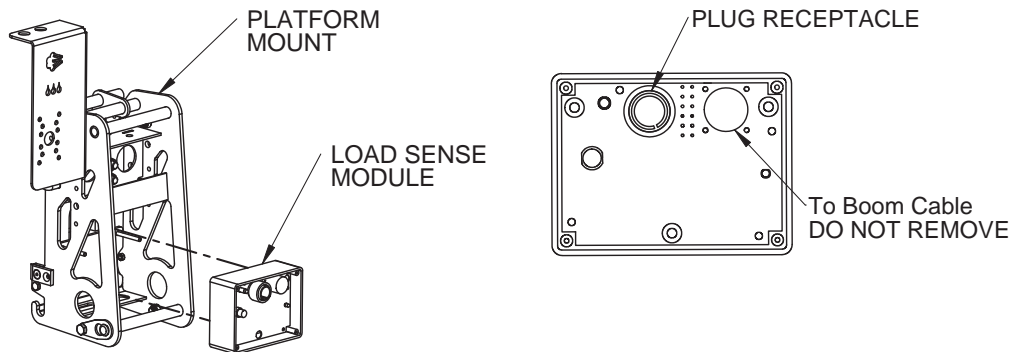

Figure 7-1. Disconnect Plug from Load Sense Module
- Disconnect the platform (upper) control box's **PLUG**; from the **LOAD SENSE MODULE**, located on the **PLATFORM MOUNT**. Refer to Figure 7-1